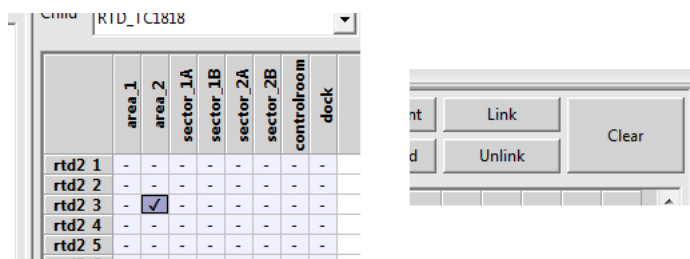

Figure 43: Plant Editor - Linking
2. Link two objects: Every cell on the grid view is a possible link between the object as the column label (parent) and the object as the row label (child). Links are shown with X (Figure 43). To link (unlink) the objects simply double click on the cell or select the cell(s) and click the “Link” (“Unlink”) button.